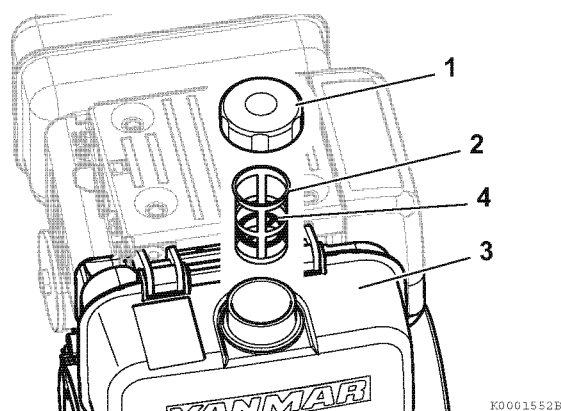

Figure 1
1. Clean the area around the fuel cap (1, **Figure 1**).
2. Remove the fuel cap (1, **Figure 1**) from the fuel tank (3, **Figure 1**).
3. Stop fueling when the fuel is at the same level as the red ring (4, **Figure 1**) at the bottom of the inlet fuel screen.
4. Replace the fuel cap (1, **Figure 1**) and hand tighten. Over-tightening the fuel cap will damage it.